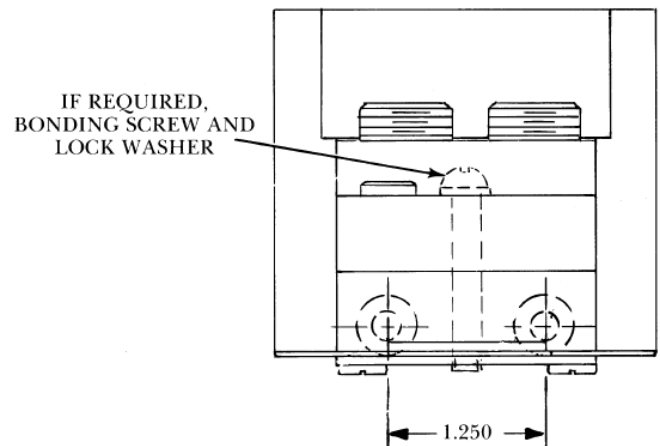

Figure 1. Neutral
This is an insulated groundable neutral rated for 200A. Each kit contains the following parts (see Figures 1 and 2):
Step 3. Install bonding screw as shown in Figure 1 (if required). Torque fastener to 17-20 in-lbs.